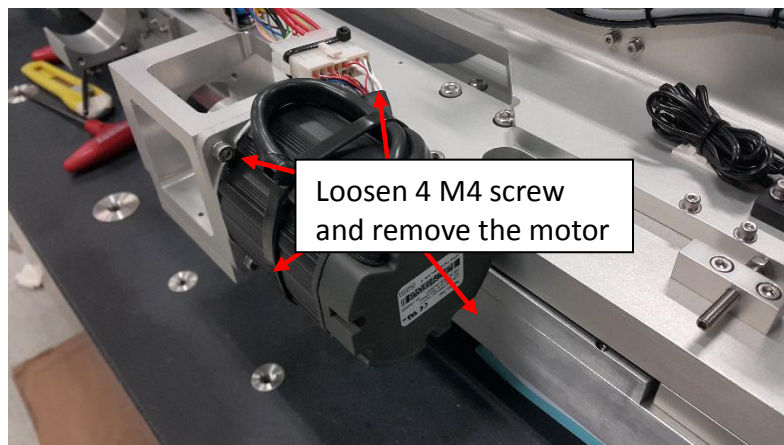

Figure 3 X-Axis Motor
3. Remove the 4 x M4 screw at the motor mount and remove the motor from the X-axis stage as shown in the Figure 3.